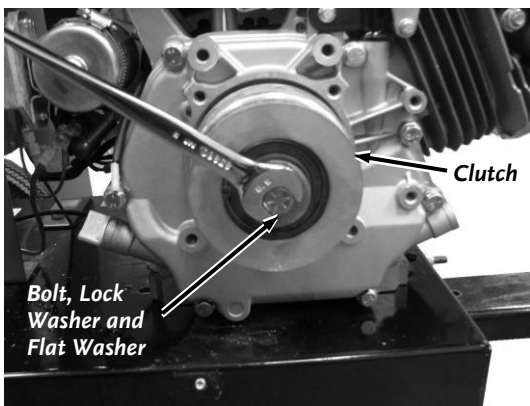

Figure 49
2. Remove the Clutch Bolt, Lock Washer and Washer and then slide the Clutch from the Crankshaft (**Figure 49**).